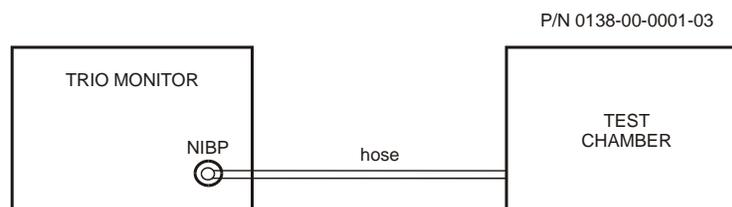

FIGURE 2-7 Diagram of NIBP Air Leakage Test
1. Connect a test chamber (P/N 0138-00-0001-03) to the NIBP quick connect fitting on the **Trio** Monitor (Figure 2-7).